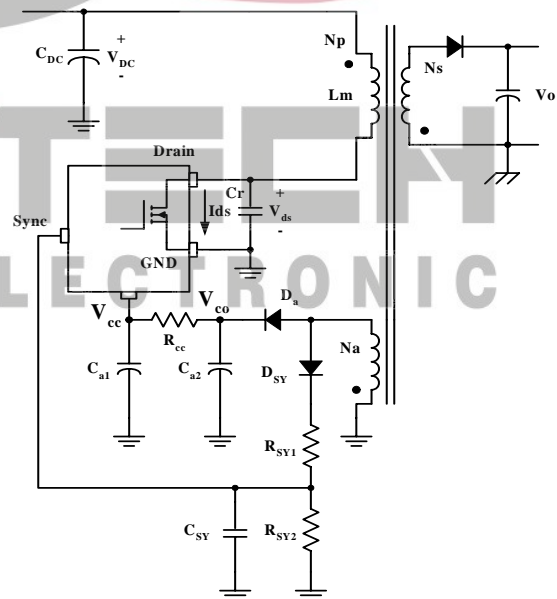
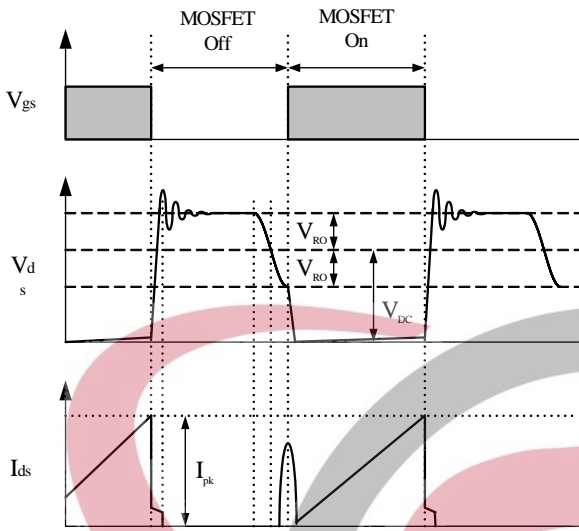
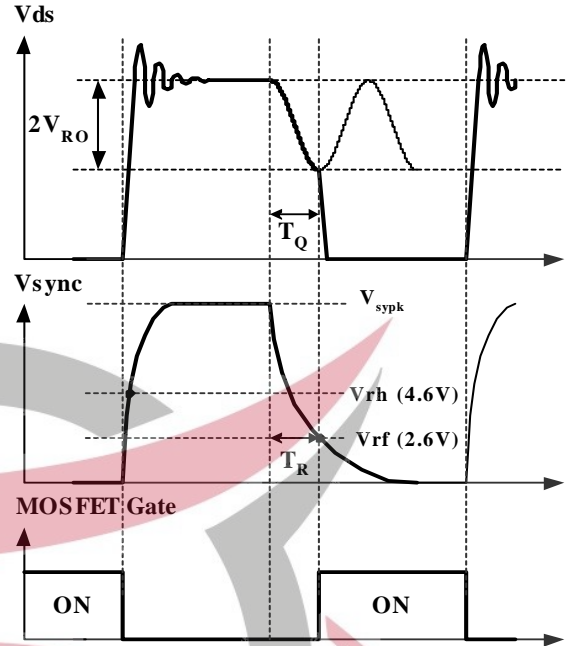

Figure 6. Synchronization Circuit
Figure 7. Quasi-resonant Operation Waveforms
Figure 8. Normal Quasi-Resonant Operation Waveforms
2. **Synchronization:** The FSCQ-Series employs a quasi-resonant switching technique to minimize the switching noise and loss. In this technique, a capacitor (Cr) is added between the MOSFET drain and the source as shown in Figure 6. The basic waveforms of the quasi-resonant converter are shown in Figure 7. The external capacitor lowers the rising slope of the drain voltage to reduce the EMI caused when the MOSFET turns off. To minimize the MOSFET's switching loss, the MOSFET should be turned on when the drain voltage reaches its minimum value as shown in Figure 7.
The minimum drain voltage is indirectly detected by monitoring the Vcc winding voltage as shown in Figure 6 and 8. Choose voltage dividers,  $R_{SY1}$  and  $R_{SY2}$ , so that the peak voltage of the sync signal ( $V_{syph}$ ) is lower than the OVP voltage (12V) to avoid triggering OVP in normal operation. It is typical to set  $V_{syph}$  to be lower than OVP voltage by 3-4 V. To detect the optimum time to turn on MOSFET, the sync capacitor ( $C_{SY}$ ) should be determined so that  $T_R$  is the same with  $T_Q$  as shown in Figure 8. The  $T_R$  and  $T_Q$  are given as, respectively